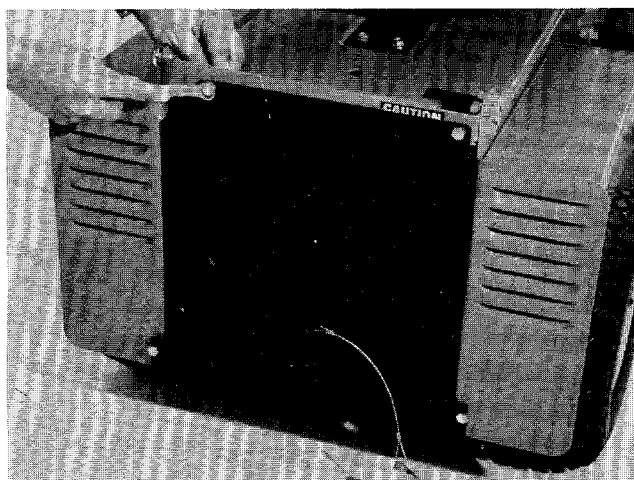

FIGURE 30.
3. Place the rear hitch plate against the discharge opening of the rider. Attach with four 5/16" screws (H), lock washers (I) and nuts (J). See figure 30.